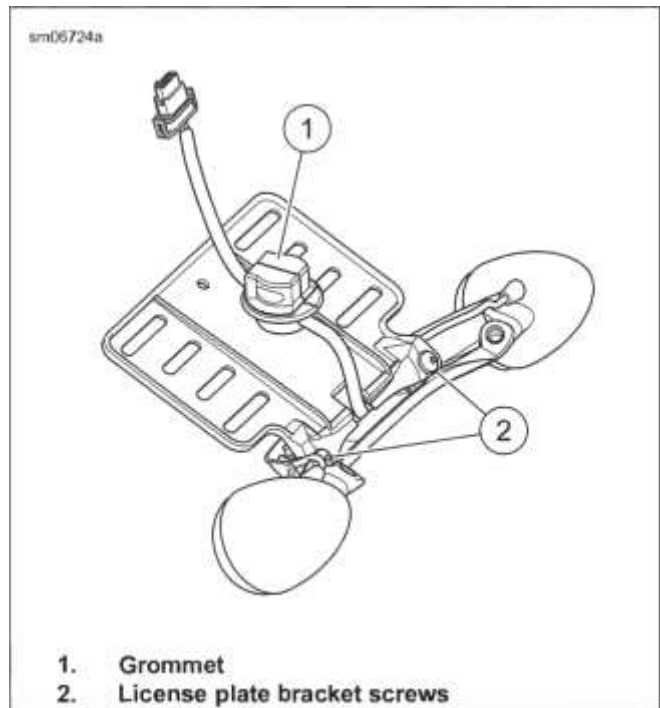

Figure 8-64. Rear Turn Signal Lamps and Harness (models without tail lamp)
- a. See Figure 8-64. Install grommet (1) and orient as shown.